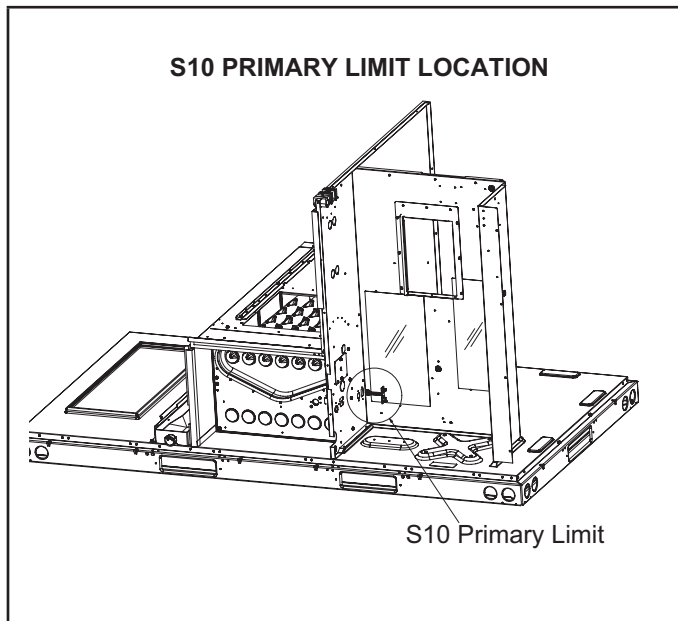
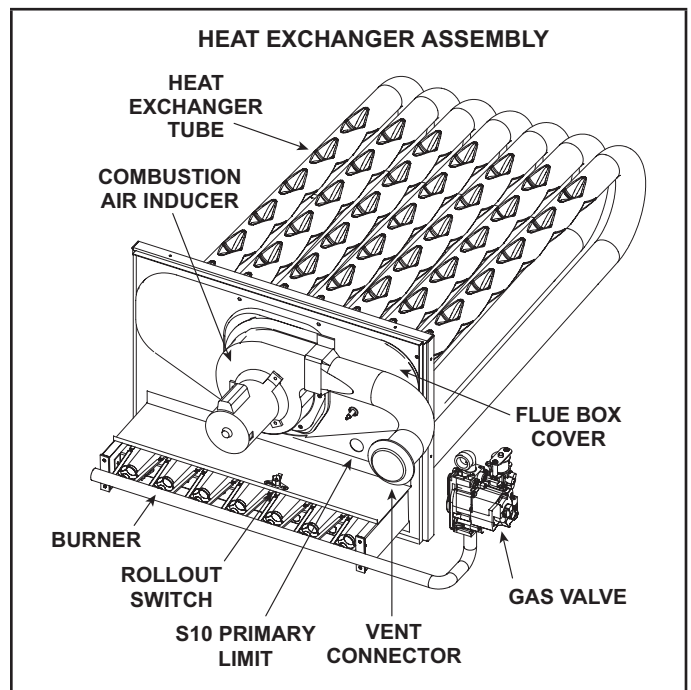

Figure 18
Figure 19
The S10 limit location depends upon the indoor blower assembly installed. S10 limit for the Direct Plus Blowers are located on the left wall in the control box area (Figure 18). This S10 limit style is a closed faced switch mounted on a 3 inch stilt. S10 limit for the ECM blowers are located on the vestibule panel in the heat access compartment (Figure 19). This S10 limit style is an open-faced button switch mounted through a 1" diameter hole.
3. Heat Exchanger (Figure 19)